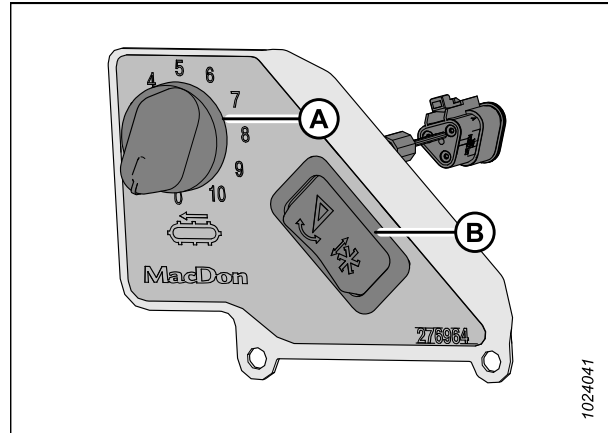

Figure 3.179: In-Cab Side Draper Speed Control
Switch (B) in Figure 3.179, page 158 allows the operator to switch between the header tilt and reel fore-aft controls. For instructions on the controls, refer to *Adjusting Header Angle from Combine*, page 154.